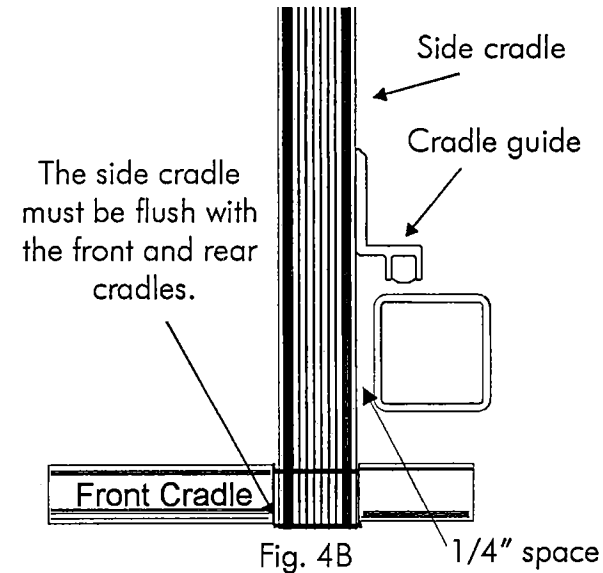

Fig. 4B
- Cradle beams are joined as shown below. See Fig 4A, 4B and 4C. Allow 1/4" between the side cradle and corner posts. See Fig. 4B.